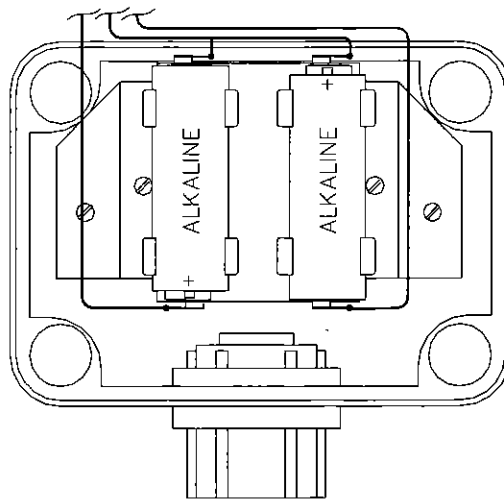
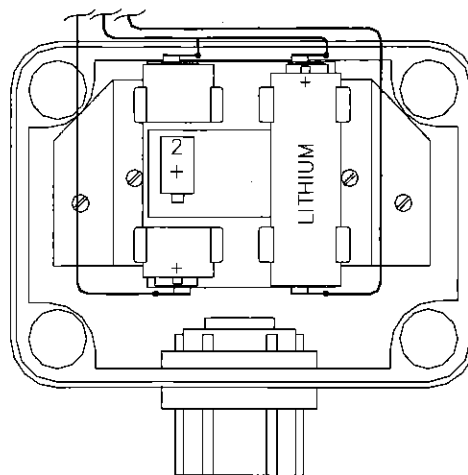

Figure 2-5 Alkaline Batteries Installed
Figure 2-6 Lithium Battery Installed
The 2110 can operate on two 1.5-volt alkaline C cells which are supplied with the flow monitor (Figure 2-5) or one 3-volt lithium C-cell (Figure 2-6). The batteries are accessible by removing the enclosure cover. The battery type can be reconfigured by changing a jumper setting (Section 2.3.3).
2. Determine the correct positive and negative orientation of the battery by referring to Figures 2-5 and 2-6 or the polarity diagram on the battery compartments.